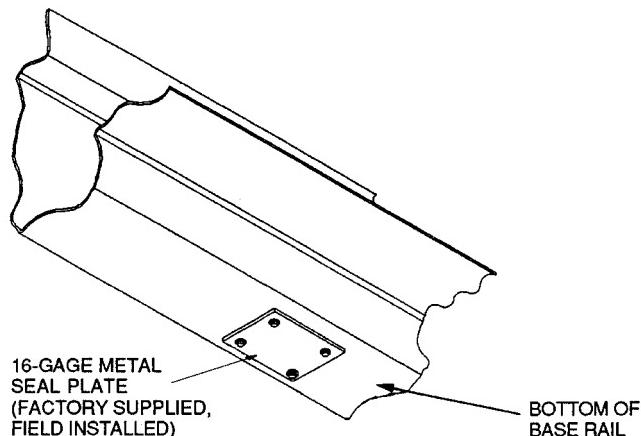

Fig. 6 — Seal Plate Location
3. Cover the remaining drain hole with the 16-gage metal seal plate and attach the plate using the other 4 screws provided. See Fig. 6.